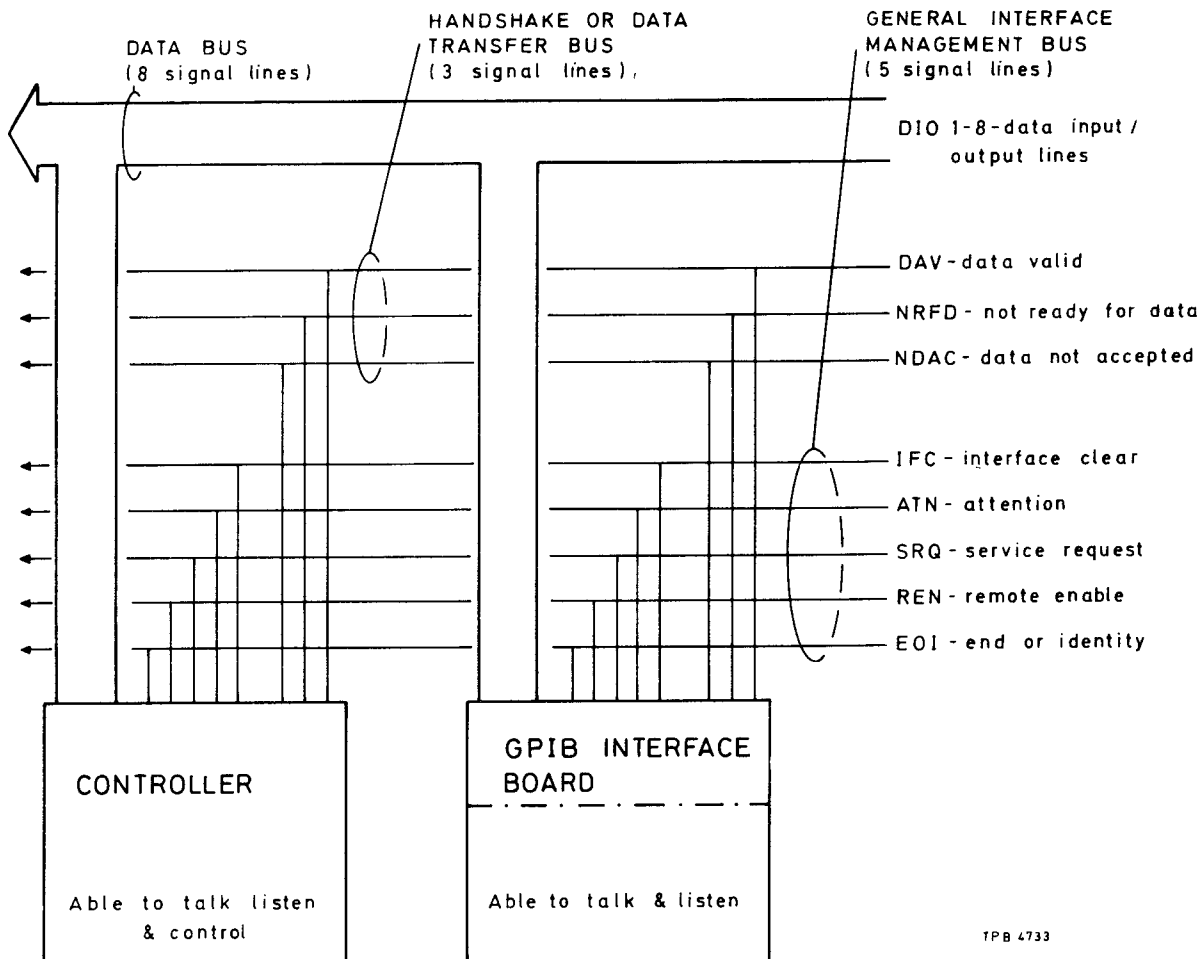

Fig. 8 General Purpose Interface Bus structure
► 79. Fig. 8 shows the General Purpose Interface Bus structure with the 16 lines sub-divided into data, interface management and transfer. Bus and line functions are described below.